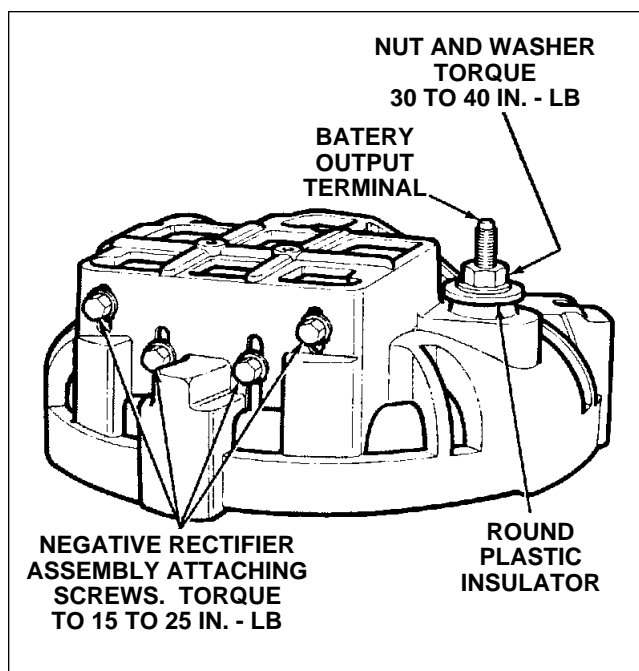

Figure 24-39. Installation of Chrysler Alternator Battery Output Insulator
- l. Turn end shield over, install round plastic insulator over battery terminal with flat side up. Install nut and washer. Tighten to a torque of 30 to 50 inch-pounds. (Refer to figure 24-39.)